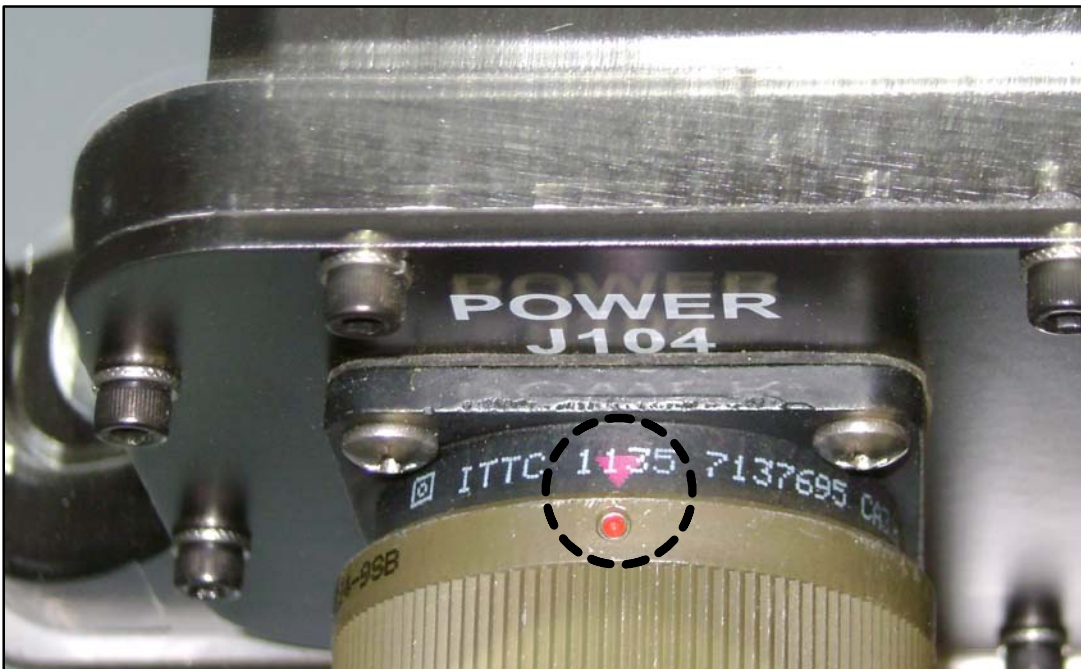

Figure 4.
- Disconnect all four (4) connectors from the PMM.
- Hand tighten the mating plug to PMM J104. For proper installation, ensure that the red dot and the arrow are aligned (refer to Figure 4).